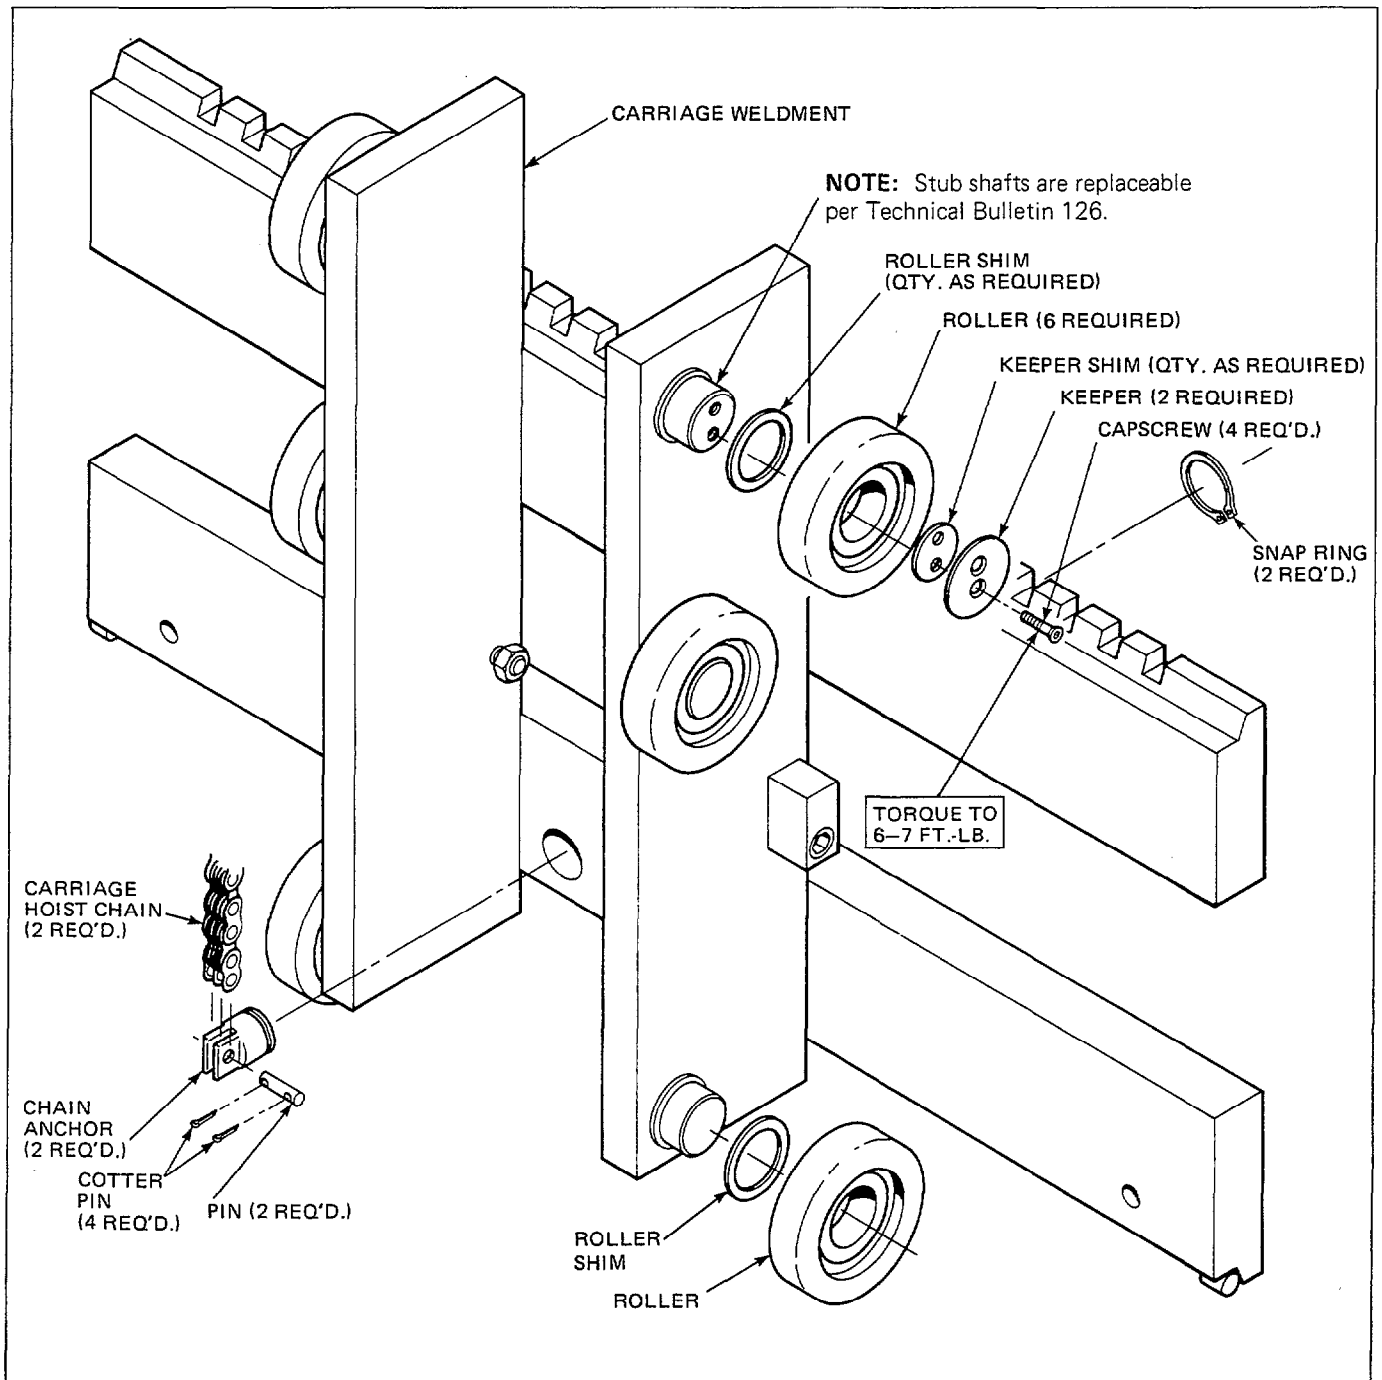

Figure 22. The Carriage Assembly
The carriage, shown in Figure 22, is the structure to which hook-type forks or the attachment is attached. The carriage travels within the channels of the mast inner upright on six, shim-adjustable load rollers. The two upper load rollers are secured to their stub shafts by keepers; the four lower load rollers are held in place by the inner channel when the carriage is assembled onto the mast. All six load rollers are interchangeable. A pair of non-adjustable chain anchors are used to connect the carriage chains to the carriage.
- Assemble the load rollers onto their stub shafts using an appropriate number of shims. See Figure 22. The shims should be installed to provide a total clearance no looser than 0.030 inch at the tightest point throughout the travel of the carriage. Refer to Section 5.3-12 for load roller shimming.